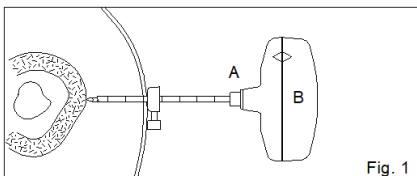

Fig. 1
FIG. 1 Depending on the depth of the bone to be reached, adjust the depth gauge on the Cutting Cannula (A) to the appropriate centimeter marker and tighten to provide a visual guide. Introduce by rotating counterclockwise the assembled Cutting Cannula and Stylet with Trocar Tip (A+B) until engaged with the bone surface.